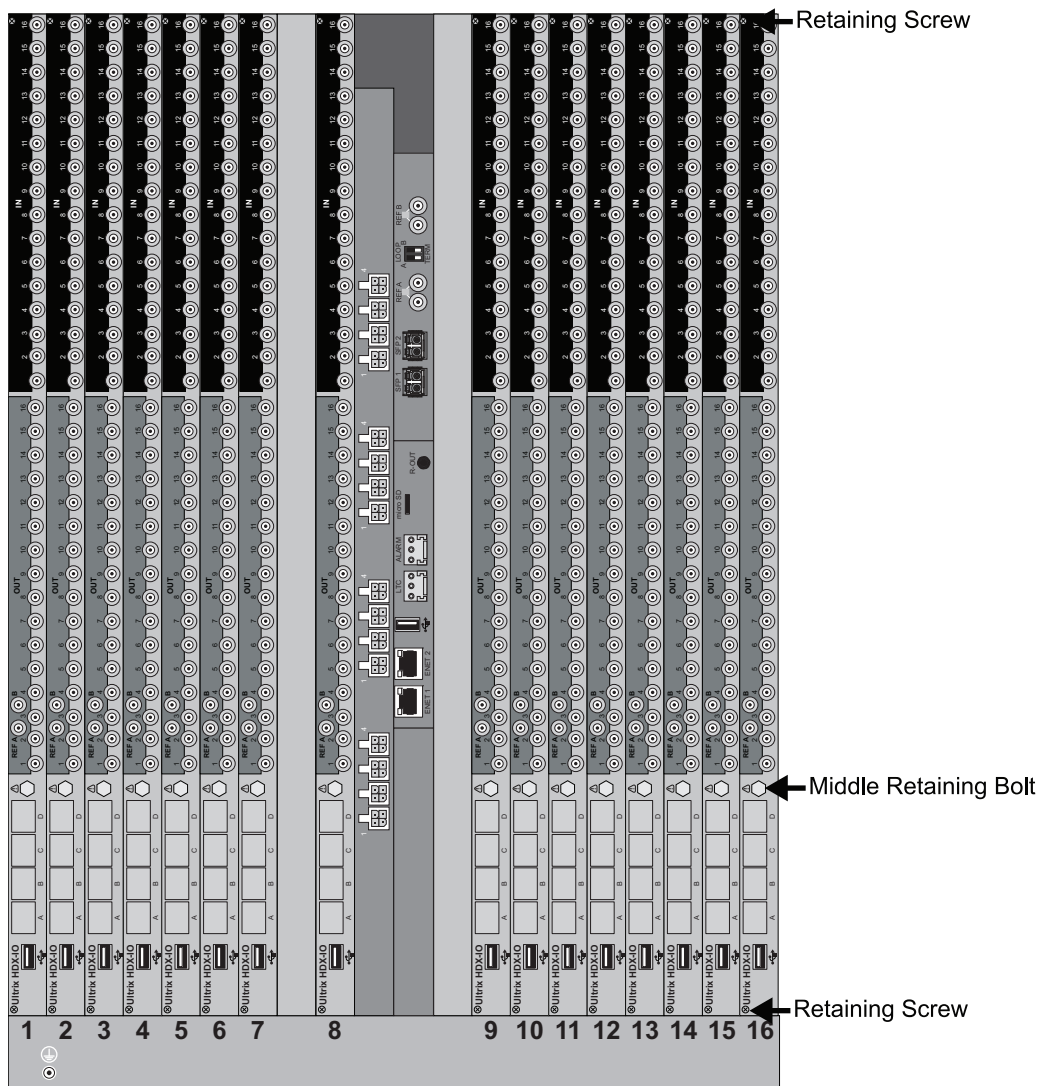

Figure 8 ULTRIX-FR12 Rear Panel — Location of Retaining Screws on an ULTRIX-HDX-IO Blade
3. Disengage the retaining screws on either end of the I/O Blade. Refer to **Figure 8**.
4. From the ULTRIX-FR12 rear panel, unfasten the Middle Retaining Bolt. Note that this bolt is not removable but it does extract the blade. Refer to **Figure 8** for the bolt location on the rear panel.